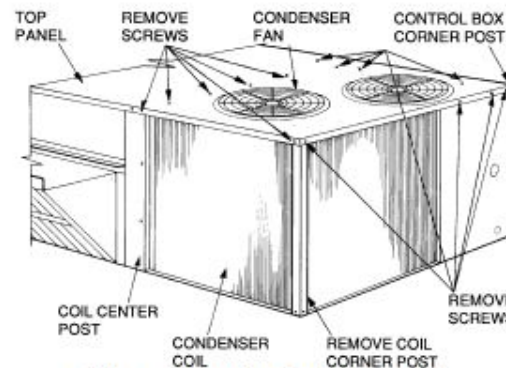
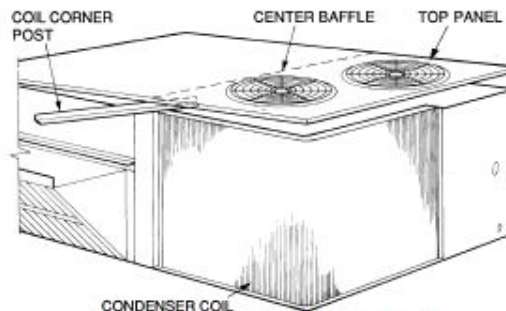

Fig. 53 — Cleaning Condenser Coil
Fig. 54 — Propping Up Top Panel
3. Remove condenser coil corner post. See Fig. 53. To hold top panel open, place coil corner post between top panel and center post. See Fig. 54.